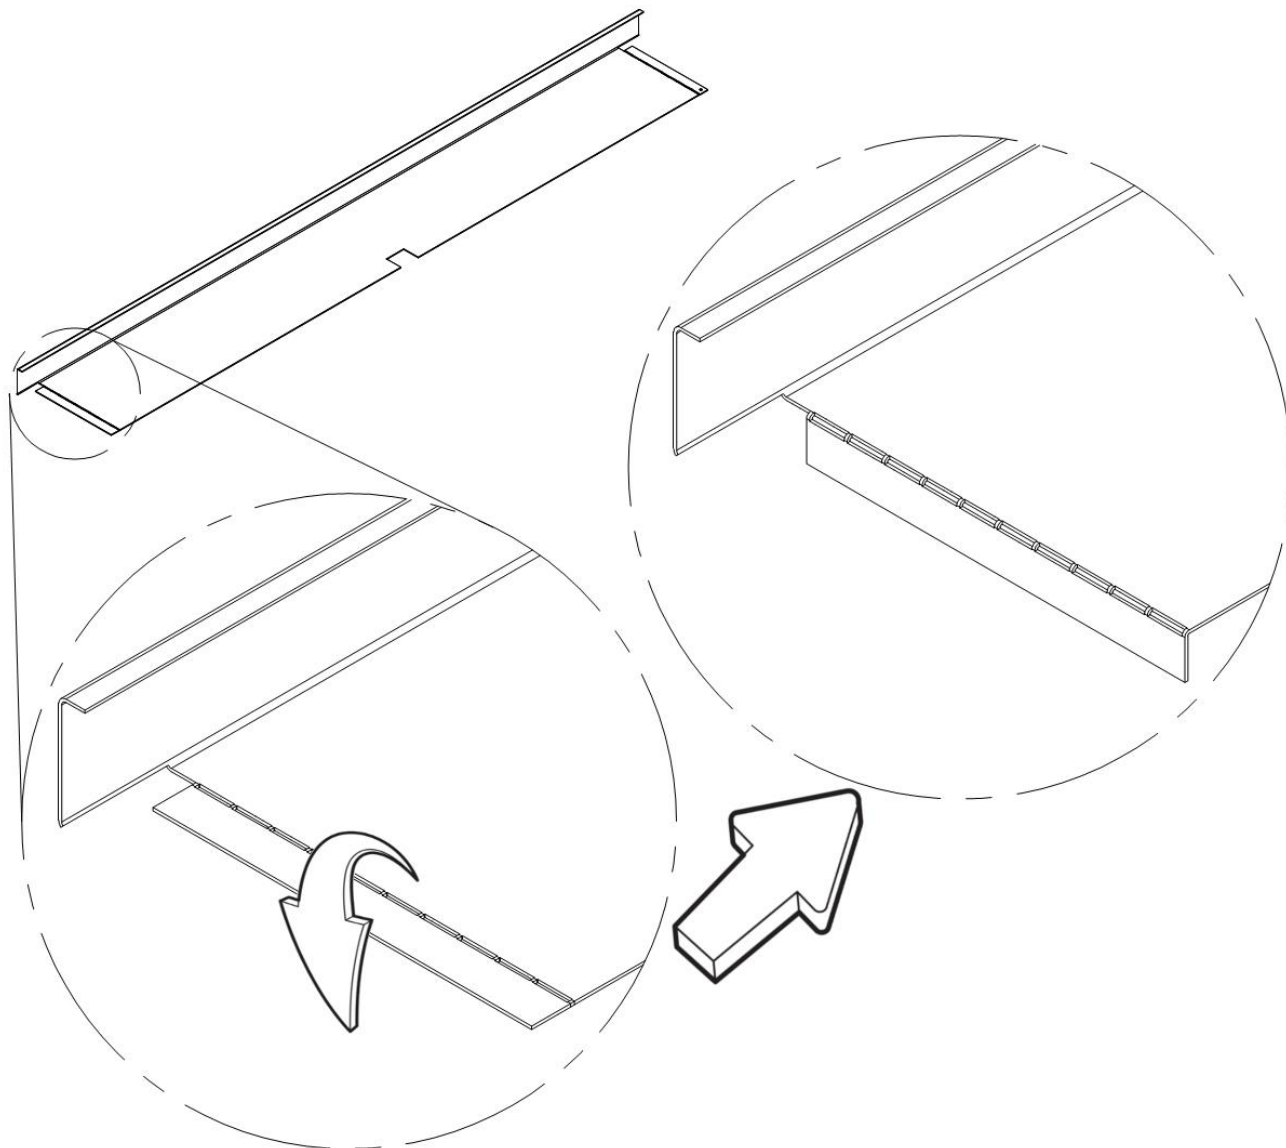

Figure 2.2 Bending the ends of the counter frame top element.
4. Bend both ends of the counter frame top element along the perforation to an angle of 90°. (Figure 2.2)